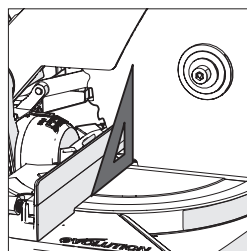

Fig. 8
- Place the set square on the table with one short edge against the table and the other short edge against the blade (avoiding the TCT tips of the blade teeth) (Fig. 8).